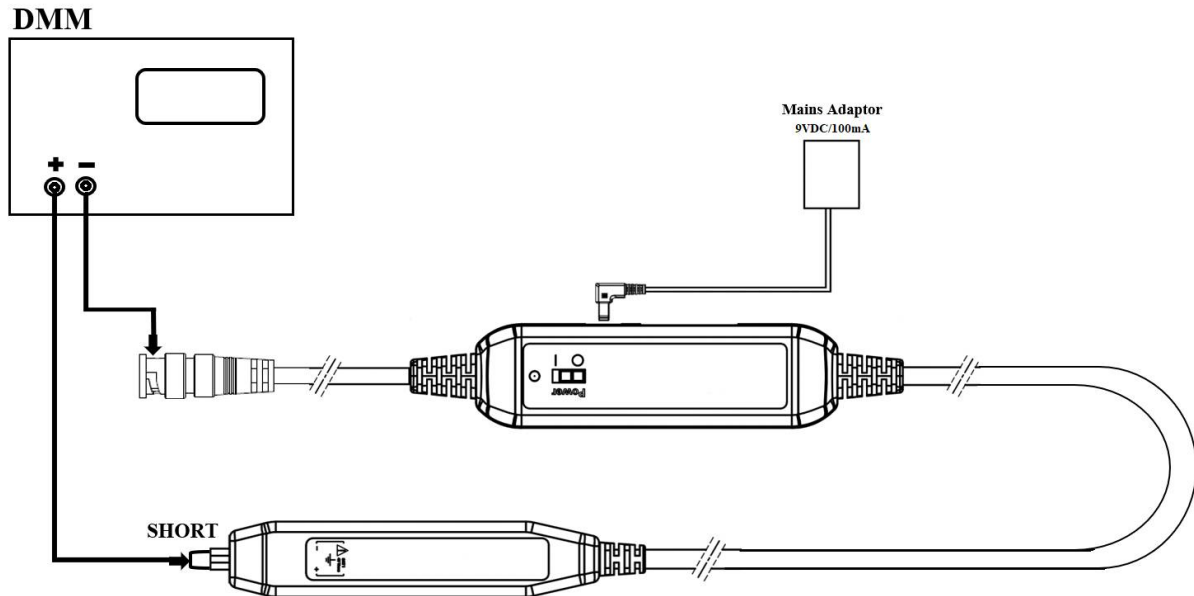

Fig. 4
- B-1. Connect the probe as shown in Fig. 4.